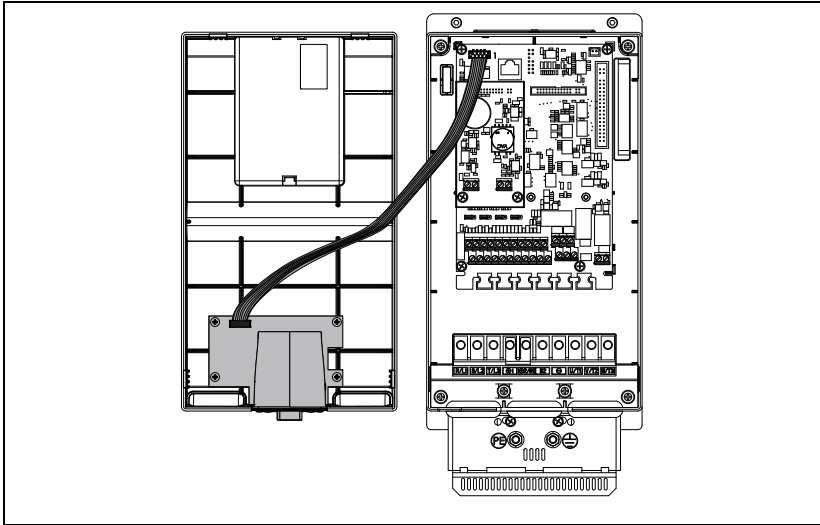

Fig. 39 Mount the 275mm long flat cable.
4. Mount the 275 mm long 8-pole flat cable according to Fig. 39. Connect the cable to connector X4 on the control board and connector X2 on the option board.